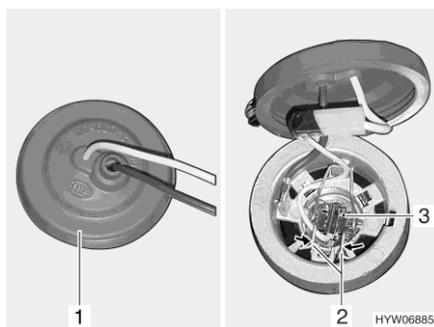

Fig. 165 Fog light
- Put your hand behind the fog light and remove rubber cap (Fig. 165,1) from lamp housing.
- Press metal clip (Fig. 165,2) together and release from holder.
- Remove bulb (Fig. 165,3) with cable from lamp housing.